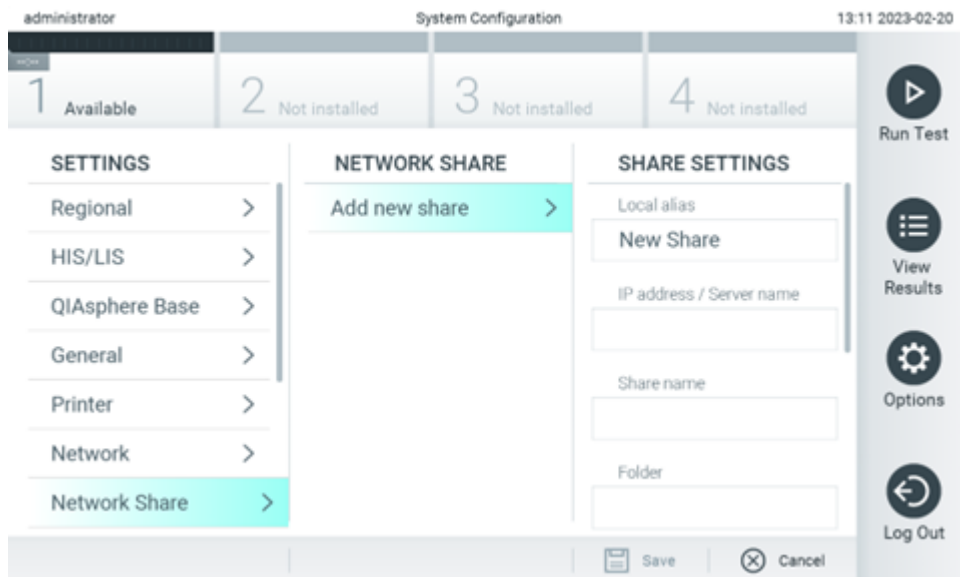

Figure 68. Adding a network share.
3. Press **Add new share** (Figure 68).